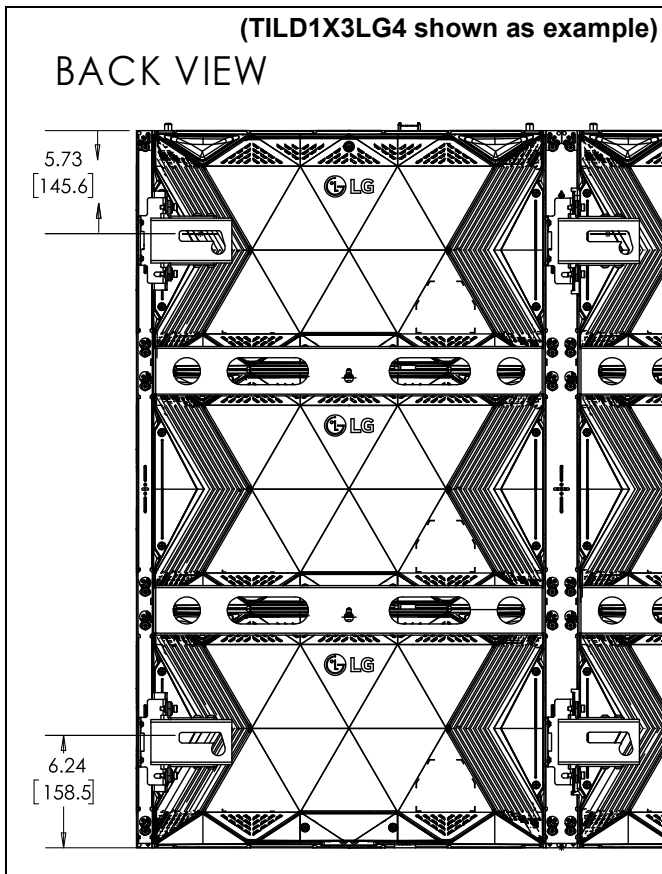

Figure 2
**IMPORTANT !** : The top of the LED screen is 5.75" above the center line of the mounting lags in the upper mounting slots. (See Figure 2)
**NOTE:** Refer to dimensions drawings on pages 18-22 and in Figure 2 for further details on installation locations.
1. Determine location for the **bottom left** corner of the LED wall. (See Figure 2)